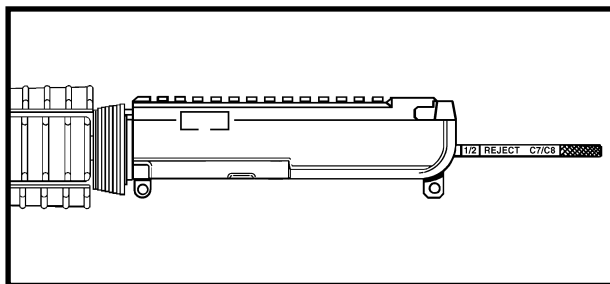

Figure 4-2 Gauging the Barrel
- d. Determine barrel life by reading the gauge marking that is in line with the rear face of the upper receiver. See Figure 4-2.